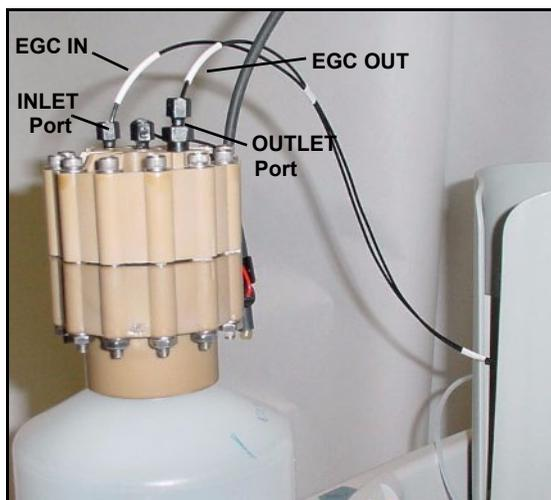

Figure 5-38. EGC Inlet and Outlet Connections
11. Connect the **EGC OUT** line from the holder to the **OUTLET** port (see Figure 5-38).